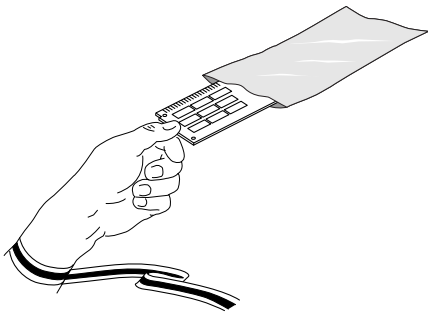

Figure 1-4 Unpacking the DIMM
Caution – Hold DIMMs only by their edges to avoid damaging them (Figure 1-4).
3. **Unpack the DIMM, holding it only by the edges (Figure 1-4).**